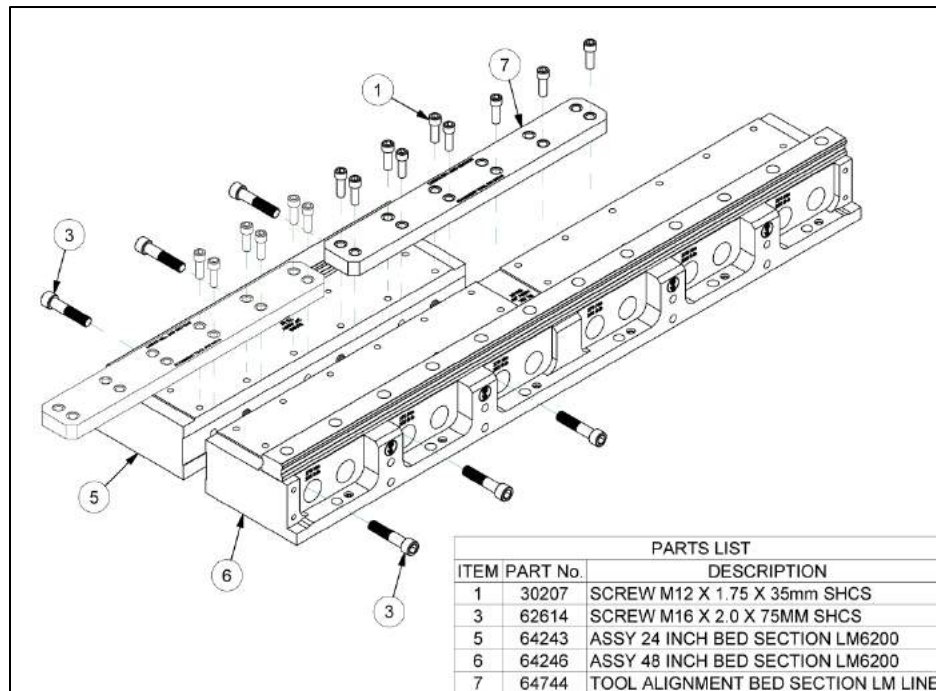

Figure 1
1. Set up one 24 inch (Item 5) and one 48 inch bed section (Item 6) as shown in Figure 1.
3. Place both bed alignment tools (Item 7) on the sections as shown in Figure 1.